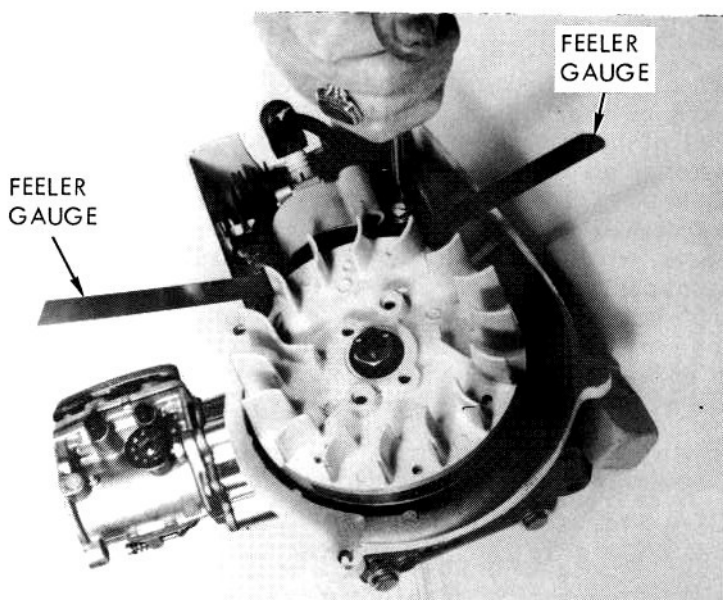

FIGURE 7
4. Insert a feeler gauge of the proper thickness under each of the laminations (Figure 7).